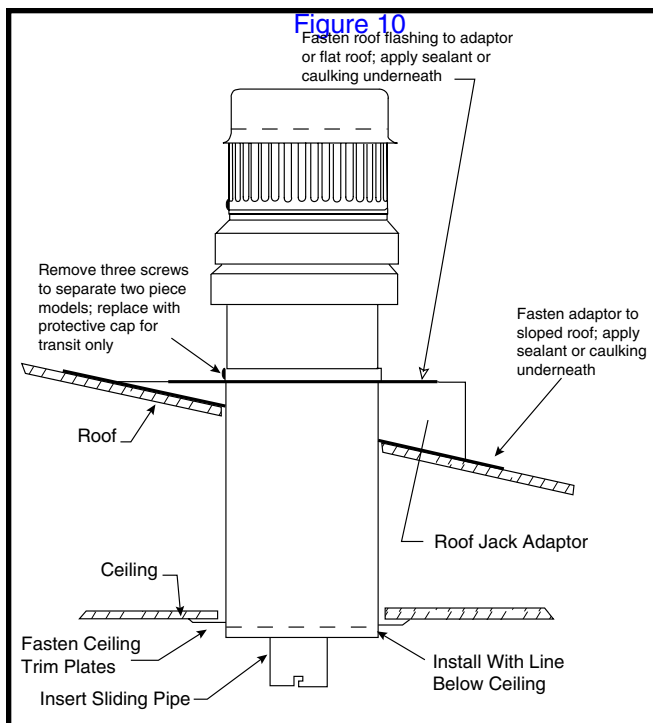
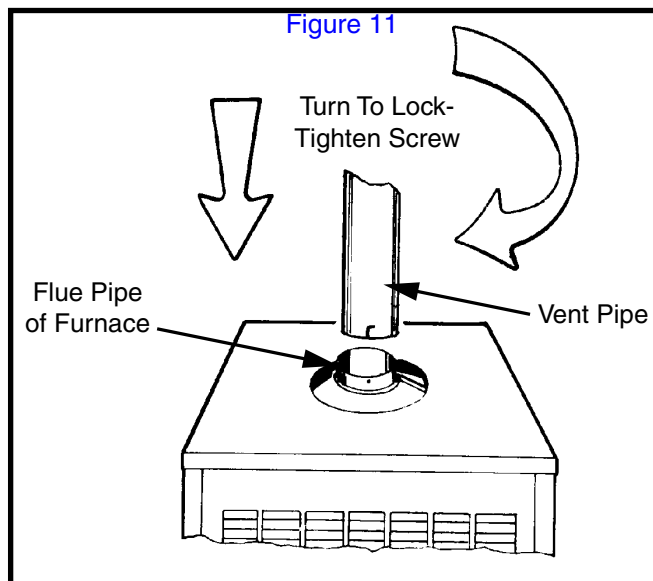

Figure 10. Roof Jack
Figure 11. Vent Pipe Installation
6. Twist the vent pipe to lock the two pipes together and tighten the screw. All joints and connections should be inspected before start up of the furnace. See Figure 10 (page 12) & Figure 11.